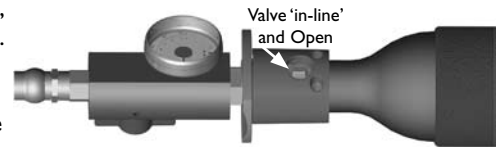

Figure 8e - Open Nozzle Valve
5. Ensure that the Nozzle Valve is in the **OPEN** position - with the Nozzle Valve "in line" with the flow of air. (Fig. 8e)